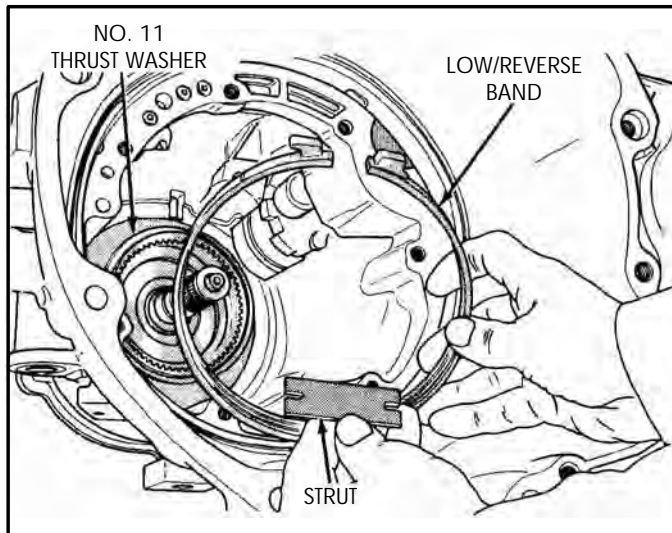

Figure 221
2. Install the low/reverse band and band strut, as shown in Figure 221. (*See Update Page 99*).